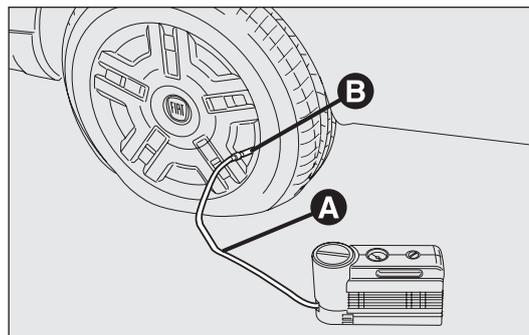

fig. 172
- Apply the handbrake. Unscrew the tyre valve cap, take out the transparent filler pipe A-fig. 172 and tighten the ring nut B on the tyre valve;